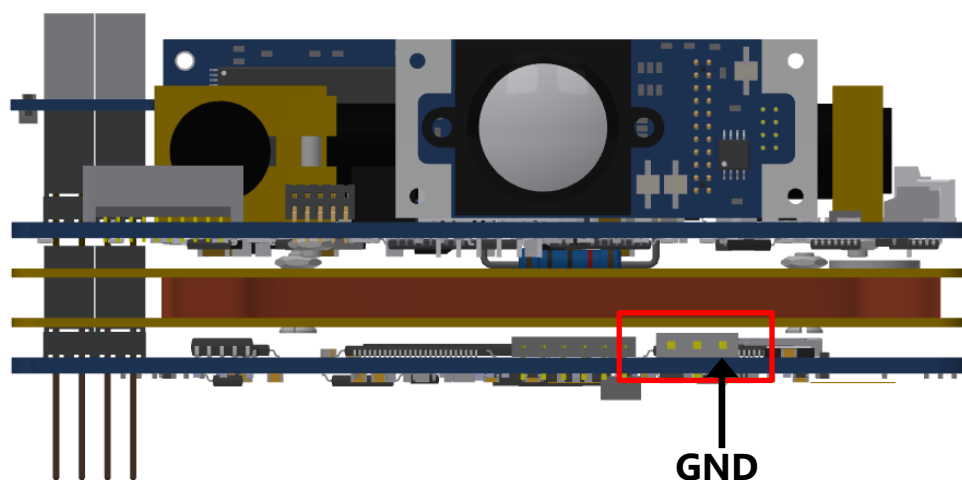

Figure 2 – Location of UART connector
- Connect the UART-to-USB cable to the UART connector on the **CubeComputer**, as shown in red in Figure 2. **NB: The black wire (Ground) should be connected to the pin closest to the corner of the PCB farthest away from the PC104 connector (right-hand pin of UART connector in Figure 2).**